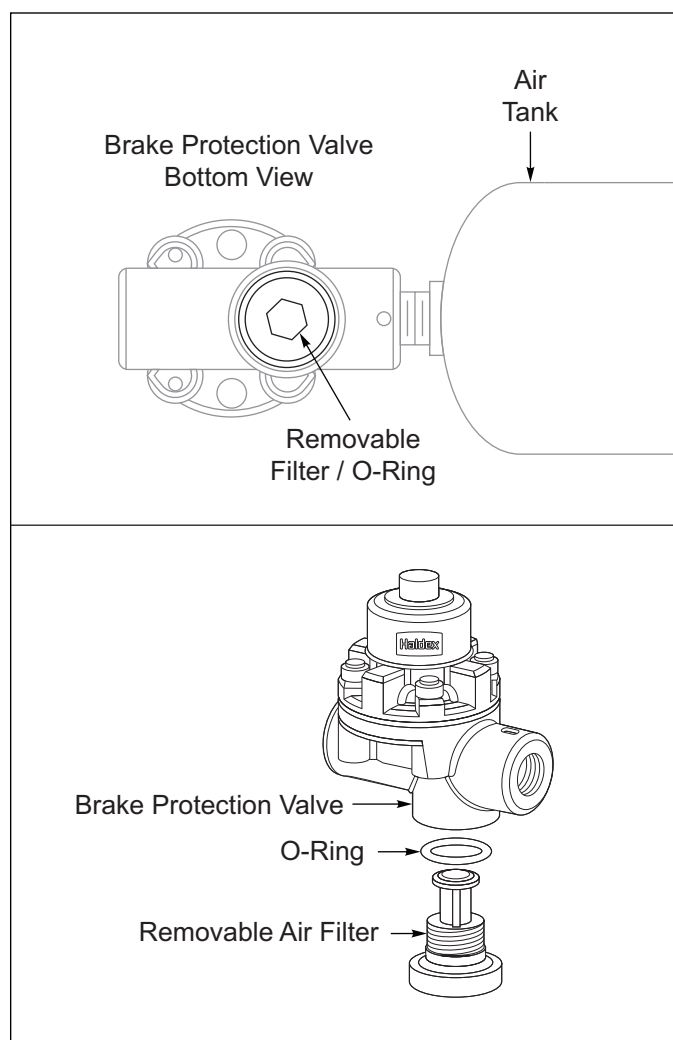

Figure 4-4: Brake Protection Valve Filter
3. Check the brake protection valve filters every 3 months or when the air flow becomes restricted, See **Figure 4-4**.